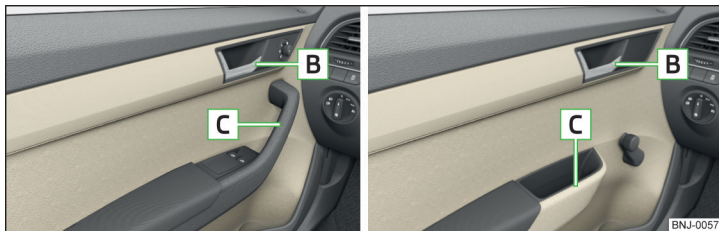

Fig. 47 Door opening lever - Variant 1 / Variant 2
- › To **open from the inside** pull the door opening lever **B** » Fig. 47 and push the door away from you.